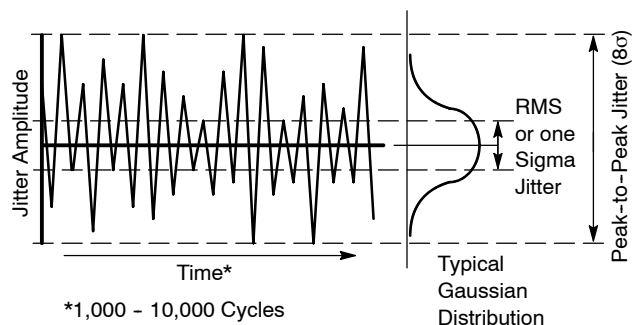

Figure 11. Random Peak-to-Peak and RMS Jitter
**Random Peak-to-Peak Jitter** is the difference between the highest and lowest acquired value and is represented as the width of the Gaussian base. See Figure 11.